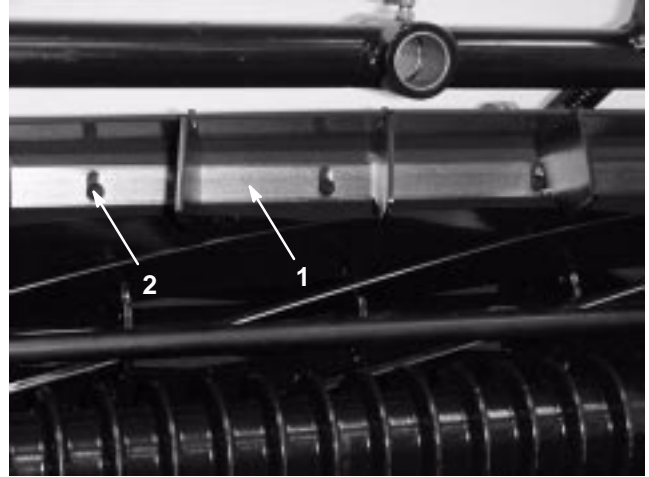

Figure 4
1. Loosen screws securing Cut-Off bar (Fig. 4). Insert 0.060" (2 mm) feeler gauge between top of reel and Cut-Off bar.